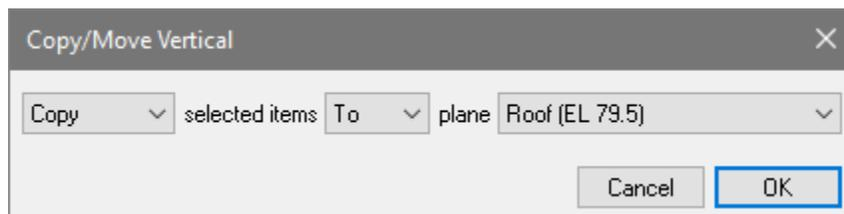

Figure 9-124
- Go to *Modify* → *Copy/Move* and click on the *Vertical*  icon. This will open up the *Copy - Move* window as shown in **FIGURE 9-124**.